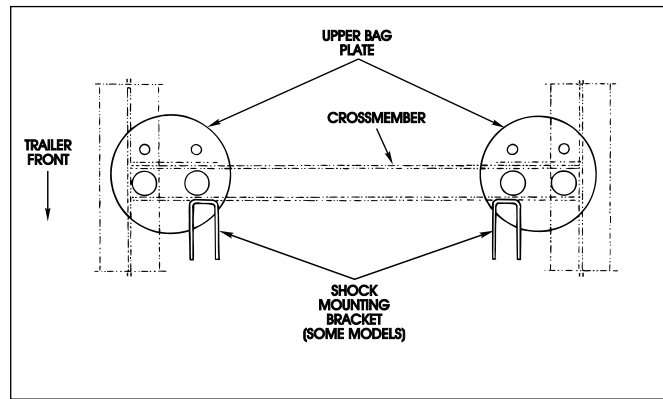

Figure 1. Upper bag plate installation
1. Lift and position the upper bag plates onto both the trailer frame rail and the crossmember as specified in the supplied suspension assembly drawing (Figure 1).